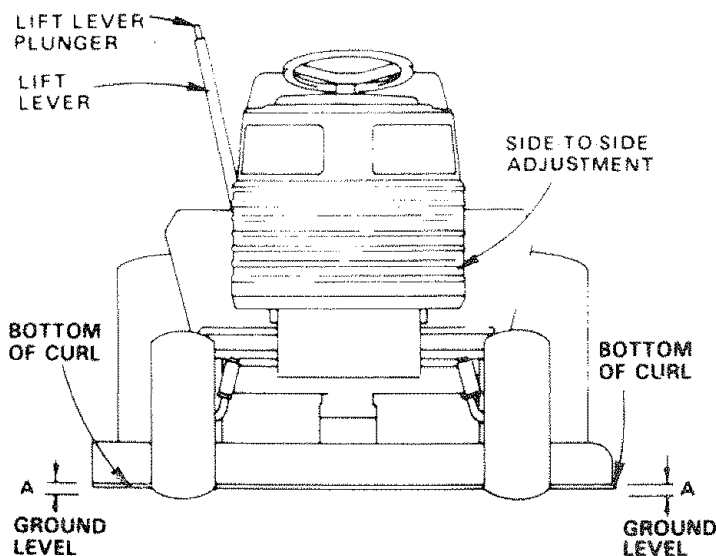

FIGURE 34
- a. Depress lift lever plunger and use lift lever to raise mower to maximum cutting height (Fig. 34).
- b. Measure height from bottom of curl to ground level at front of mower. Distance "A" should be the same (Fig. 34).